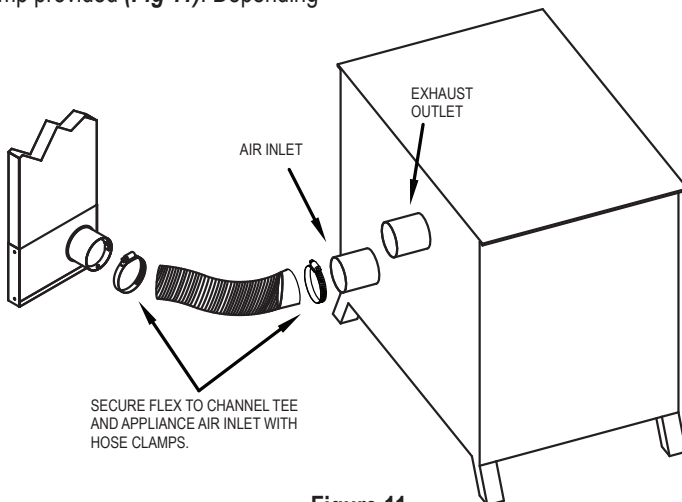

Figure 11
Step 6. Connect flex. Install the flex section over the Channel Tee branch and secure with the hose clamp provided (**Fig 11**). Depending